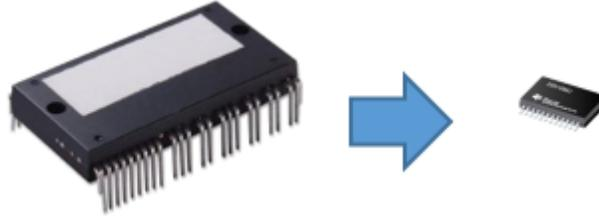
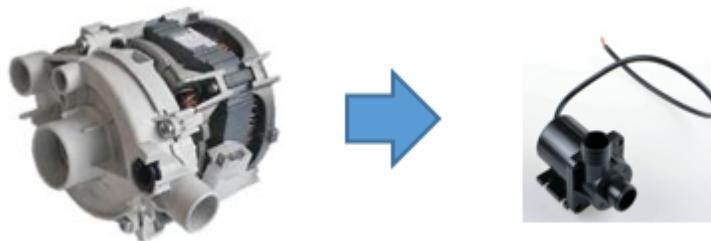

Figure 1. Variation of Driver in Form Factor
Figure 2. Variation of Motor in Form Factor
- **Small form factor.** The driver board easily fits into the motor, saving printed circuit board (PCB) space. (See Figure 1 & Figure 2)